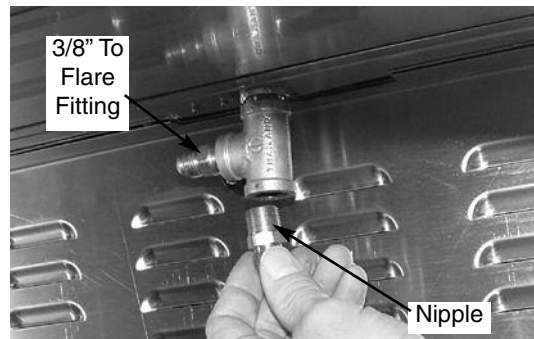

Fig 26
4. Attach one of 3/8” to flared fitting to the “T” fitting as shown. Remember to apply pipe dope to the non-flared end. Tighten with wrench. (See Fig. 26)